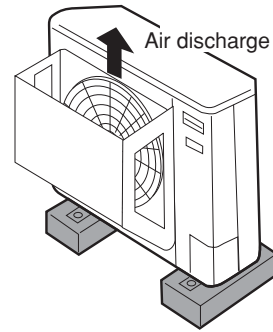

Fig. 2-8
- the air discharge outlet is facing to the sidewalk and discharged hot air annoys the passers-by. Refer to Fig. 2-8.